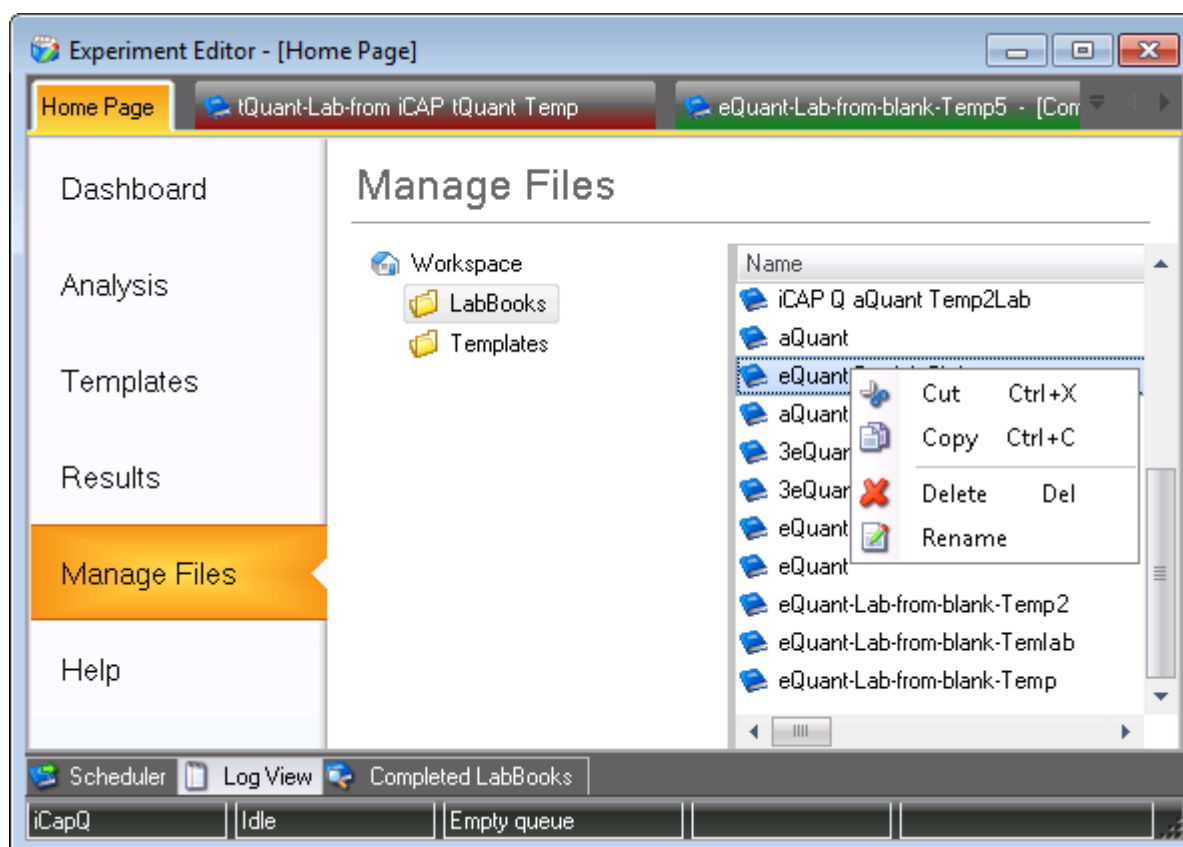

Figure 5-38. Context menu of file
4. Right-click on the file you wish to copy, see Figure 5-38.